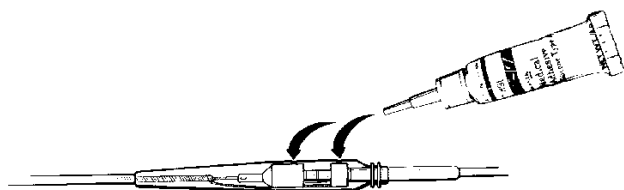

Figure 3. *Apply medical adhesive in the two setscrew holes*
8. Attach the applicator tip to the medical adhesive tube. Fill and cover the two setscrew hole openings with medical adhesive (see Figure 3).